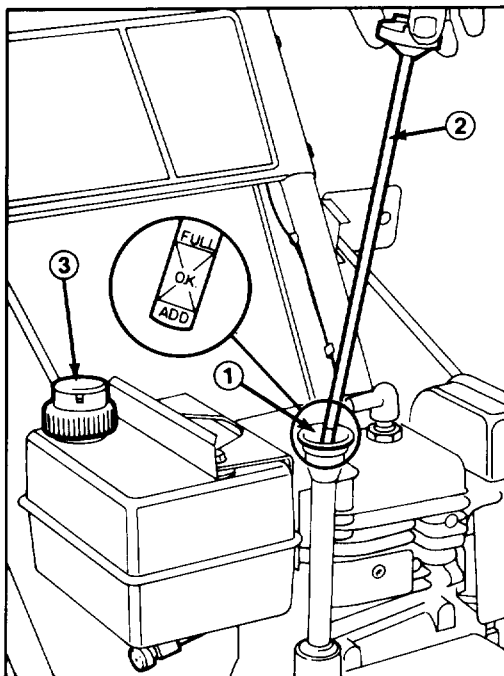

Figure 12
3. Remove dipstick from crankcase (Fig. 12).
4. Slowly, pour 21 ounces (0.621 l) of SAE 5W30 or SAE 10 oil into the filler hole (Fig. 12). The engine uses only high-quality detergent oil having the American Petroleum Institute — API — "service classification" SC, SD or SE.
1. Clean area around the fuel tank cap. Remove cap from fuel tank and fill tank to within 1/2 inch (13 mm) from the top with gasoline. Reinstall fuel tank cap (Fig. 12).